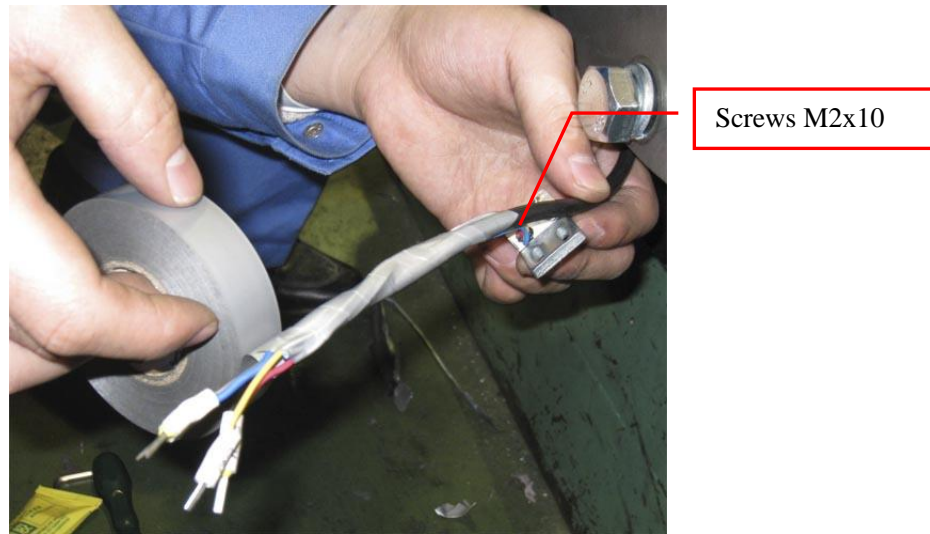

Figure 30: Electrical tape wrap
5. Cover the brake switch cable with and brake power lines with electrical tape. See Figure 30.